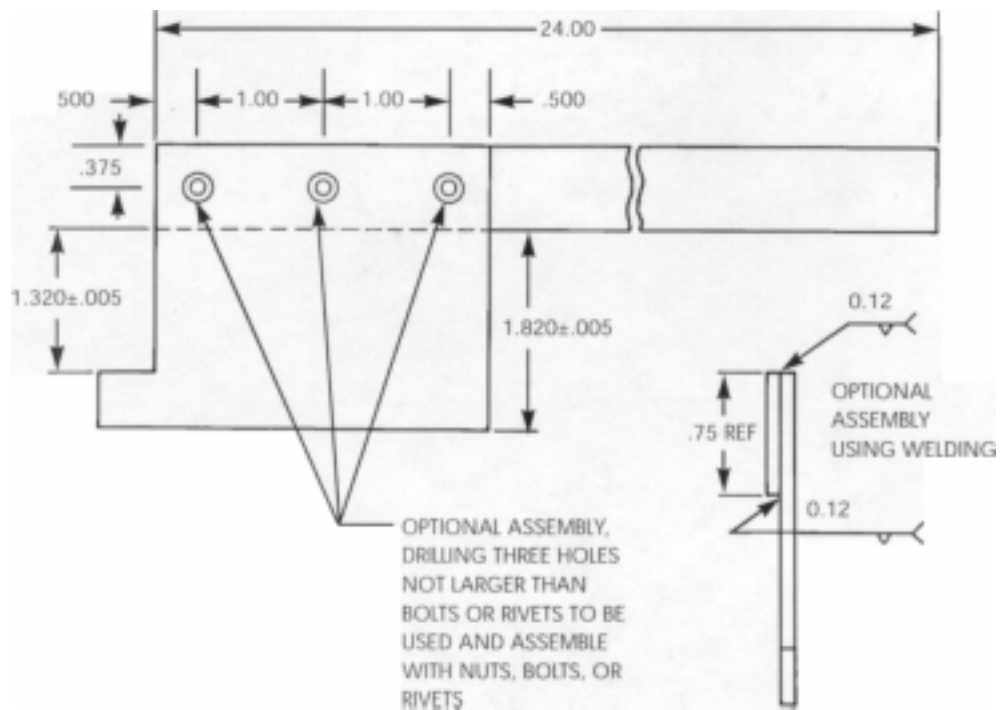

Figure 3
2. Position 24.00 in. rectangle aluminum, on top of aluminum flat sheet as shown in figure 3.
3. Check all measurements before and after welding, riveting, or bolting alignment tool together, then assemble as shown in figure 3.
6. SEE FIGURE 3 FOR ASSEMBLY OF ALIGNMENT